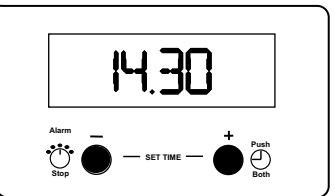

Fig. 4.
**Within 5 seconds** press and hold either button (1) to decrease or button (2) to increase the time until the correct time of day on the 24 hour clock is reached, e.g. 14.30. See Fig. 4.